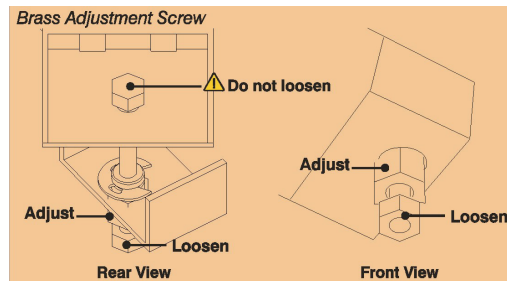

FIGURE 2-20 ADJUST BRASS SCREWS TO FIX CORNERS OF AN IMAGE
- ☐ Recommended first step in optical mirror adjustment: Adjust brass screws (not thumbscrews on the mirror) to fix the corners of an image. See Figure 2-20.
When adjusting any corner of an image, whether to enlarge or make smaller, adjust one of the four brass screws first. These screws are located on a separate brackets near each corner of the mirror. See Figure 2-20. To adjust these screws, loosen the lower black nut first, then turn the larger nut just above it in either a clockwise direction (pulls the mirror back to enlarge the image) or counter-clockwise direction (brings the mirror forward reducing size of the image) until the desired image is achieved. Remember to make small adjustments. This adjustment is only meant to correct an image that is 1-4 pixels out.